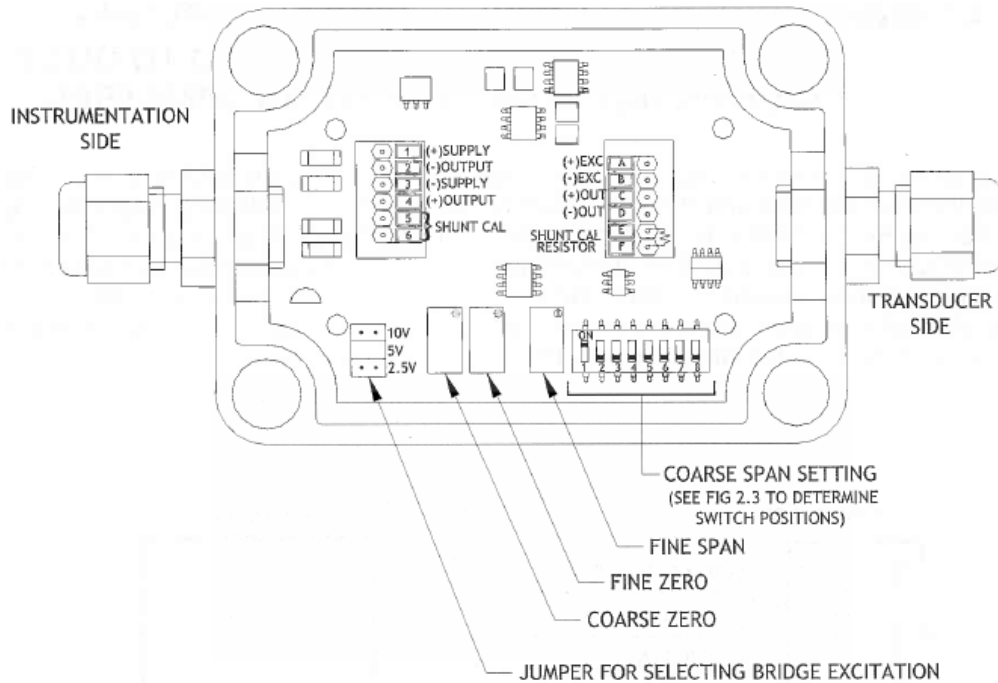

Figure 1-1
Step 2 Insert the excitation jumper in the location corresponding to the voltage determined from step 1. See Figure 1-1 for location of the jumper on the amplifier.
Step 3 Connect a jumper across PINS 5 & 6 of the power terminals (See Figure 1-1) or wire in a switch as shown in the wiring section. Adjust the SPAN potentiometer to the calculated voltage or calculated units on the readout instrument.